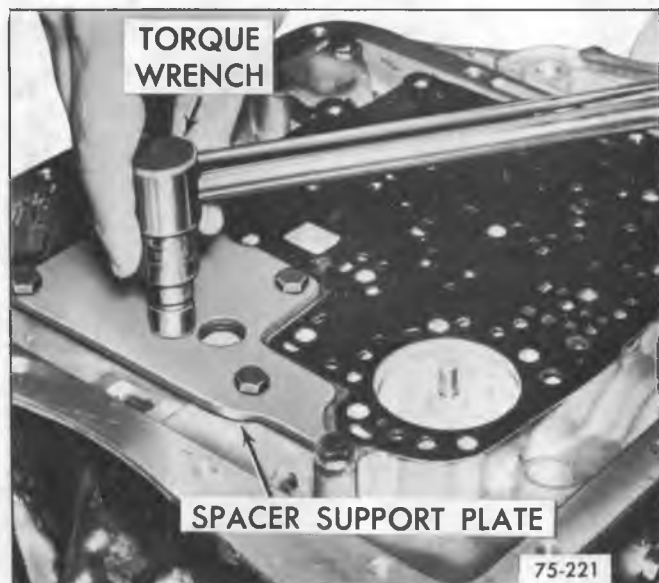

Fig. 14M--Removing Transfer (Spacer) Support Plate
3. Remove transfer support plate bolts. Remove transfer support plate (fig. 14M).